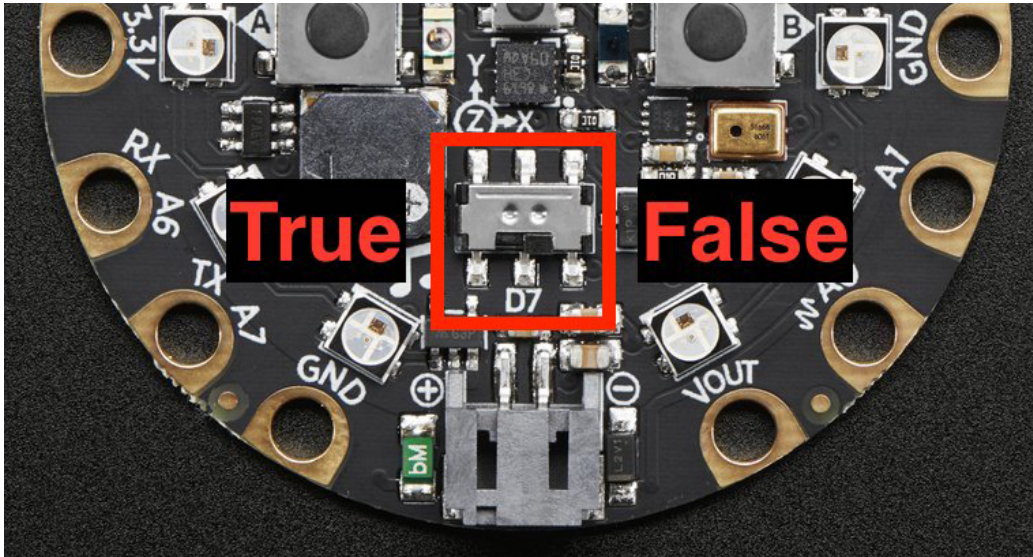

Figure 5: Slide switch on the CPX with values indicated
Logistic growth/decay examples range from population dynamics to turbine power curves. We will use the slide switch on the CPX (Figure 5) to switch between growth and decay by multiplying the growth rate, r , by 1 (growth) or -1 (decay). This is similar to turning on and off a light with a dimmer switch, where it slowly warms up to full brightness and cools to darkness when the switch is flipped. In this example, we will watch the results on the Plotter pane when the switch is flipped on and off.
- (b) The slide switch state is accessed via `cpx.switch`, and the values are shown in Figure 5.